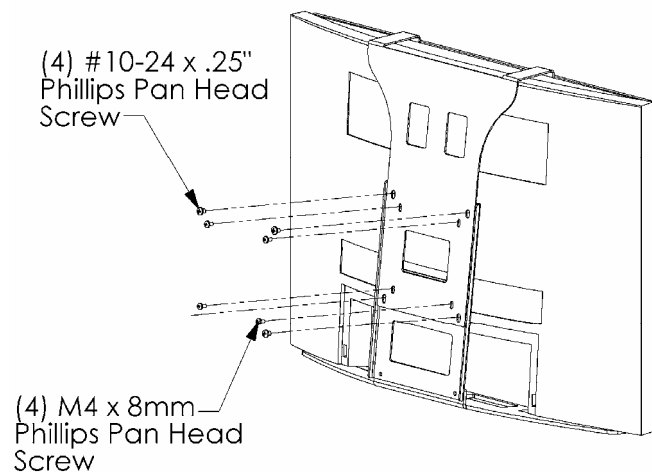

Figure 5
1. Assemble four 10-24 x .25" Phillips pan head screws to 5" (outer holes) pattern on the adapter brackets (see Figure 5).